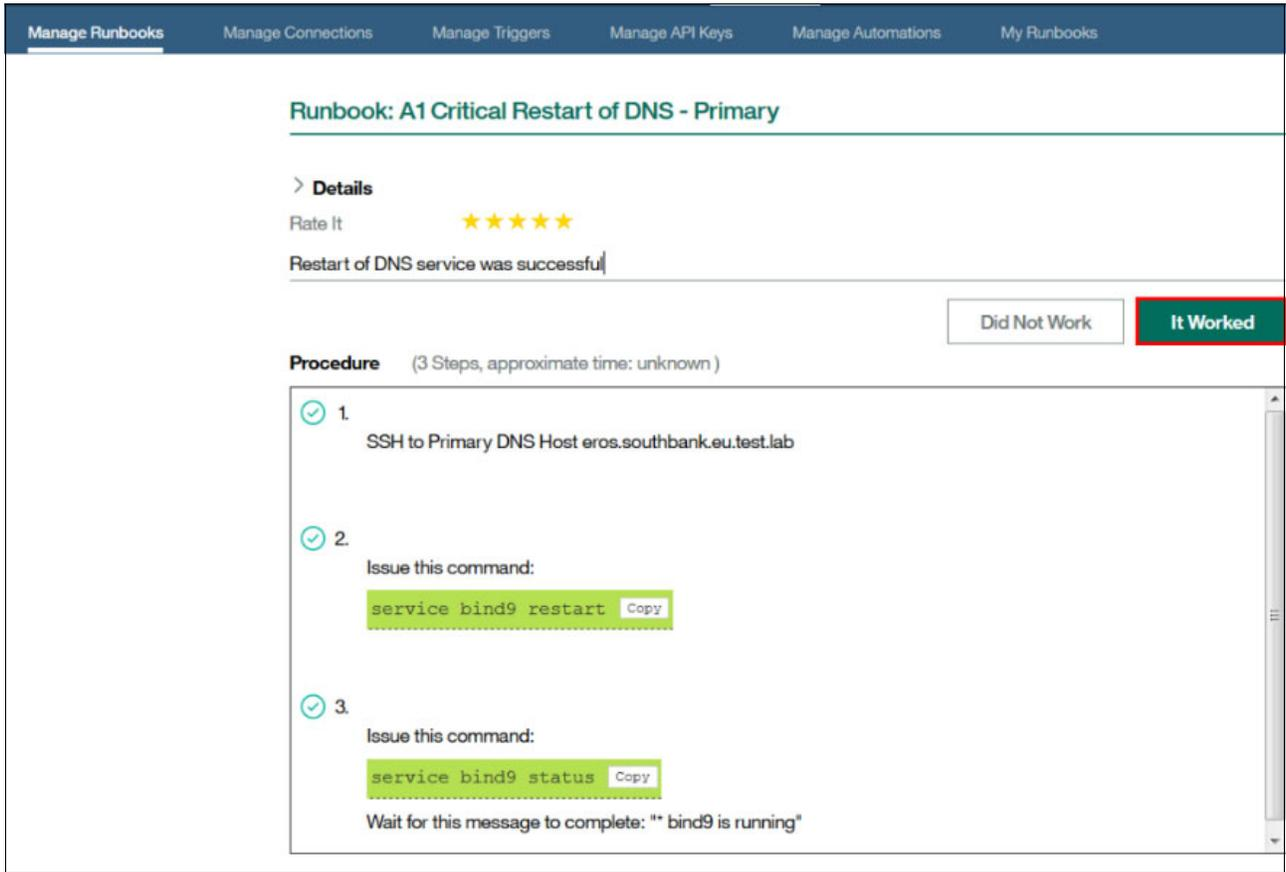

Figure 2-23 Runbook to restart the Primary DNS Service executed successfully
7. Annette runs the Runbook by following the steps to Restart the Primary DNS server. Because it was successful, she records that the Runbook works (see Figure 2-23).